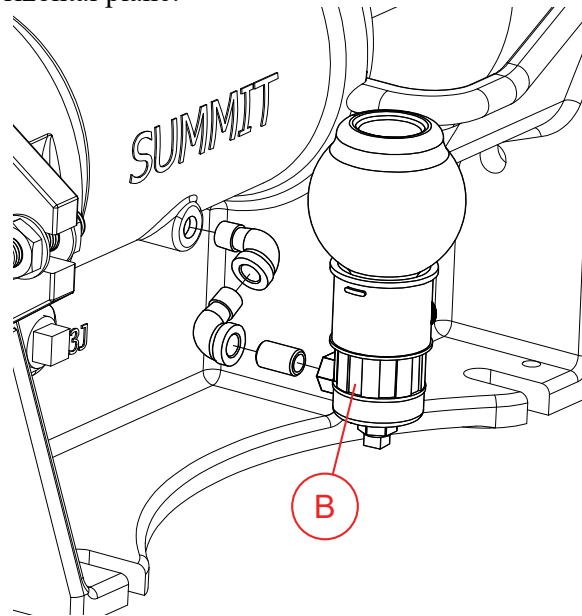

Figure 6-11: Installing oiler on bearing frame (228)
Install the pipe fittings as shown in Figure 6-11. Use a hydraulic thread sealant on all threads and not a PTFE based thread sealant or tape. Install the lower casting (B) on the pipe fittings and use a level to ensure that the lower casting is level in the horizontal plane.